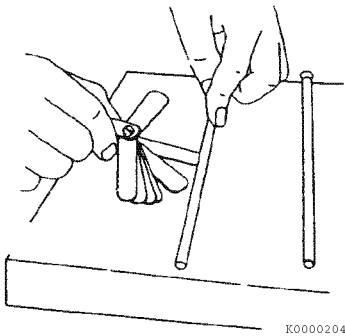

Figure 6-13
3. Use a feeler gauge to measure the gap (**Figure 6-13**). See *Push Rod* on page 6-6 for the service limit.